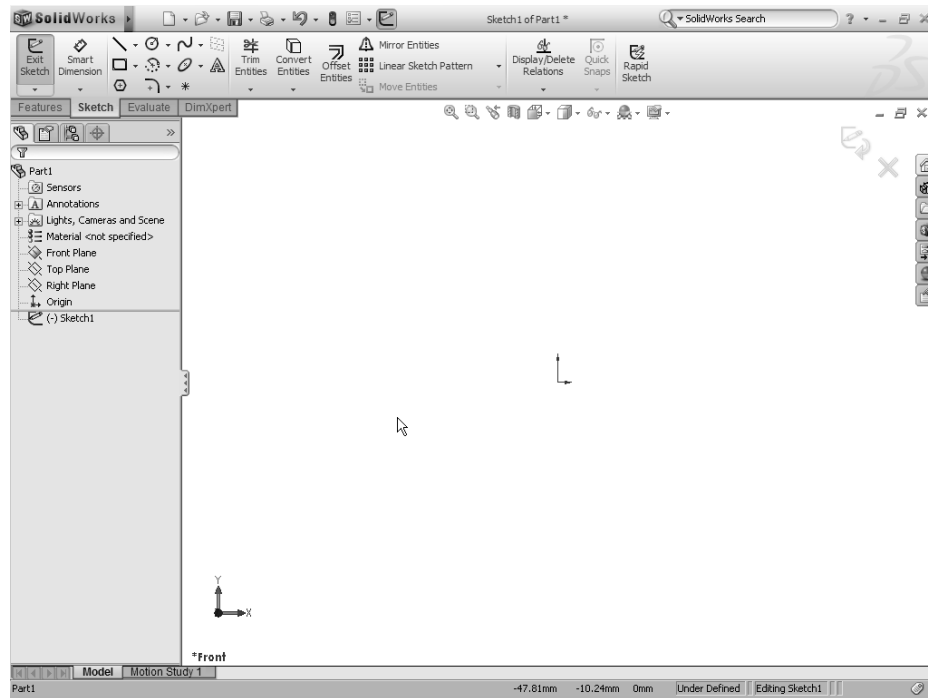

Figure 2-55 Screen display in the sketching environment
5. Select **Front Plane** from the drawing area; the sketching environment is invoked and the plane is oriented normal to the view. You will notice that a red colored arrow is displayed at the center of the screen indicating that you are in the sketching environment. Also, the confirmation corner is displayed with the **Exit Sketch** and **Delete Sketch** options on the upper right corner in the drawing area. The screen display in the sketching environment of SolidWorks is shown in Figure 2-55.